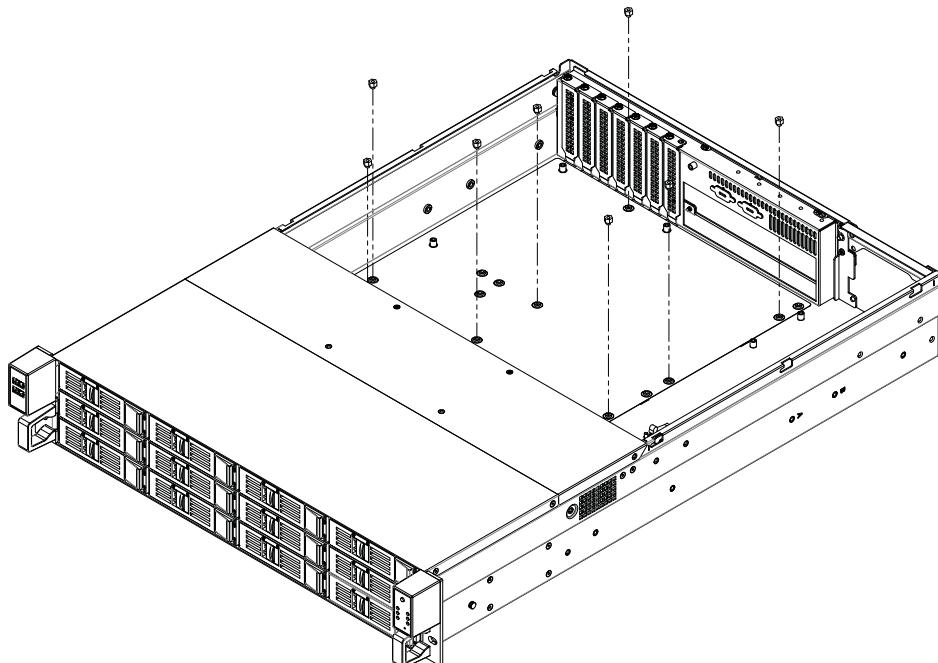

Figure 2.3 Fastening the copper stub/ 固定铜柱 / 固定銅柱
1. Located inside the rear top cover of the HPC-8212SE SKU is a yellow label (see Figure 2.2). This label shows the plastic posts where a copper stub should be attached to install an EATX/ATX/micro ATX motherboard. The copper stub is provided in the accessory box (see Figure 2.3). Affix the copper stub in the correct location and then rotate it counterclockwise to fasten it to the chassis.
1. 在 SE 机种的后顶盖内侧有一个黄色贴纸（如图 2.2 所示）。此贴纸标示了用于安装特定 EATX/ATX/MicroATX 母板的铜柱的位置。用户可以在附件盒里找到铜柱（如图 2.3 所示）。将铜柱锁入相应的位置，然后沿逆时针方向旋转将它固定在机箱上。